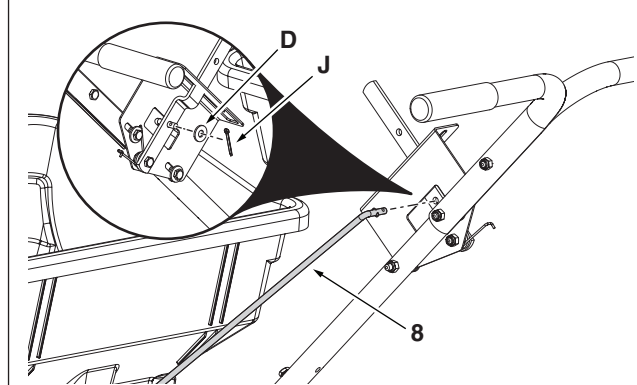

Figure 15
STEP 15: (SEE FIGURE 15)
- Attach the other end of the control rod (8) through the hole in the control arm. Place a 5/16" washer (D) over the end of the control rod and secure with a cotter pin (J) by bending the ends out.